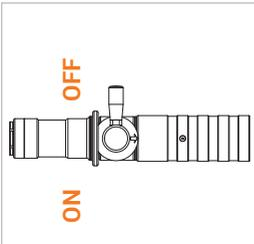

Figure 2
- ▶ Remove the fueling nozzle from the dispenser. The actuation lever (Pos. 3) must be in the OFF position (Figure 2).